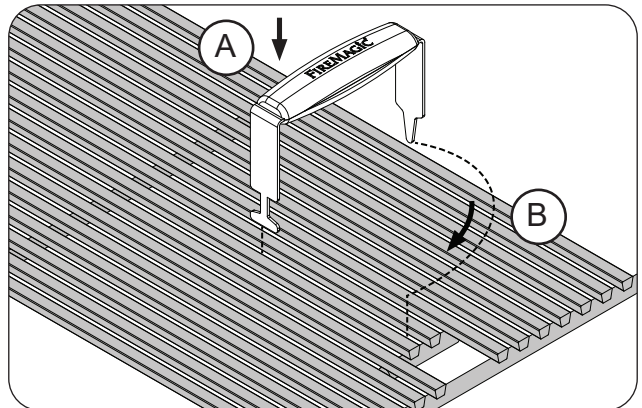
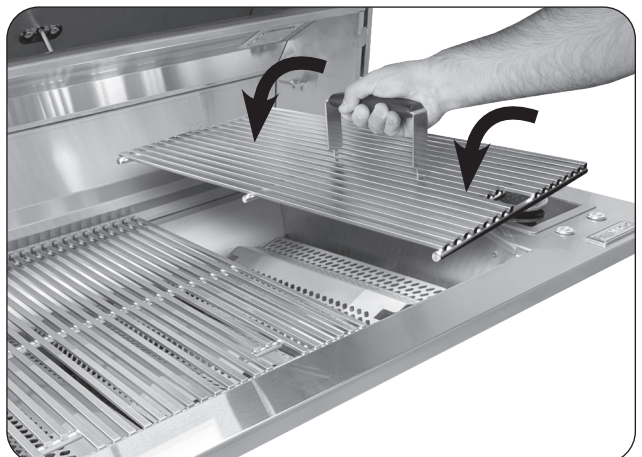

Fig. 32-3 Install cooking grids
Fig. 32-4 Install cooking grids
1. With the prongs facing downward, insert the notched-end of the grid lifter between two grid rods, then rotate, as shown in Fig. 32-3, A & B.
2. Insert the rear pointed-end of the lifter between the same two rods (Fig. 32-3, B) and carefully lift the cooking grid and place onto the front and rear grid rests of the grill (see Fig. 32-4). Repeat for all other cooking grids.